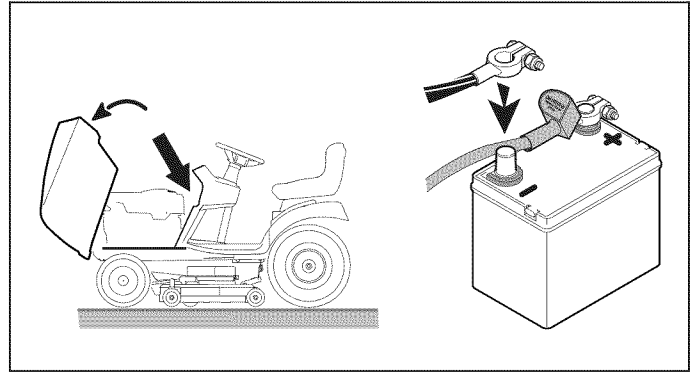

Figure 12
1. Disconnect the cables from the battery, negative cable first (see Figure 12).